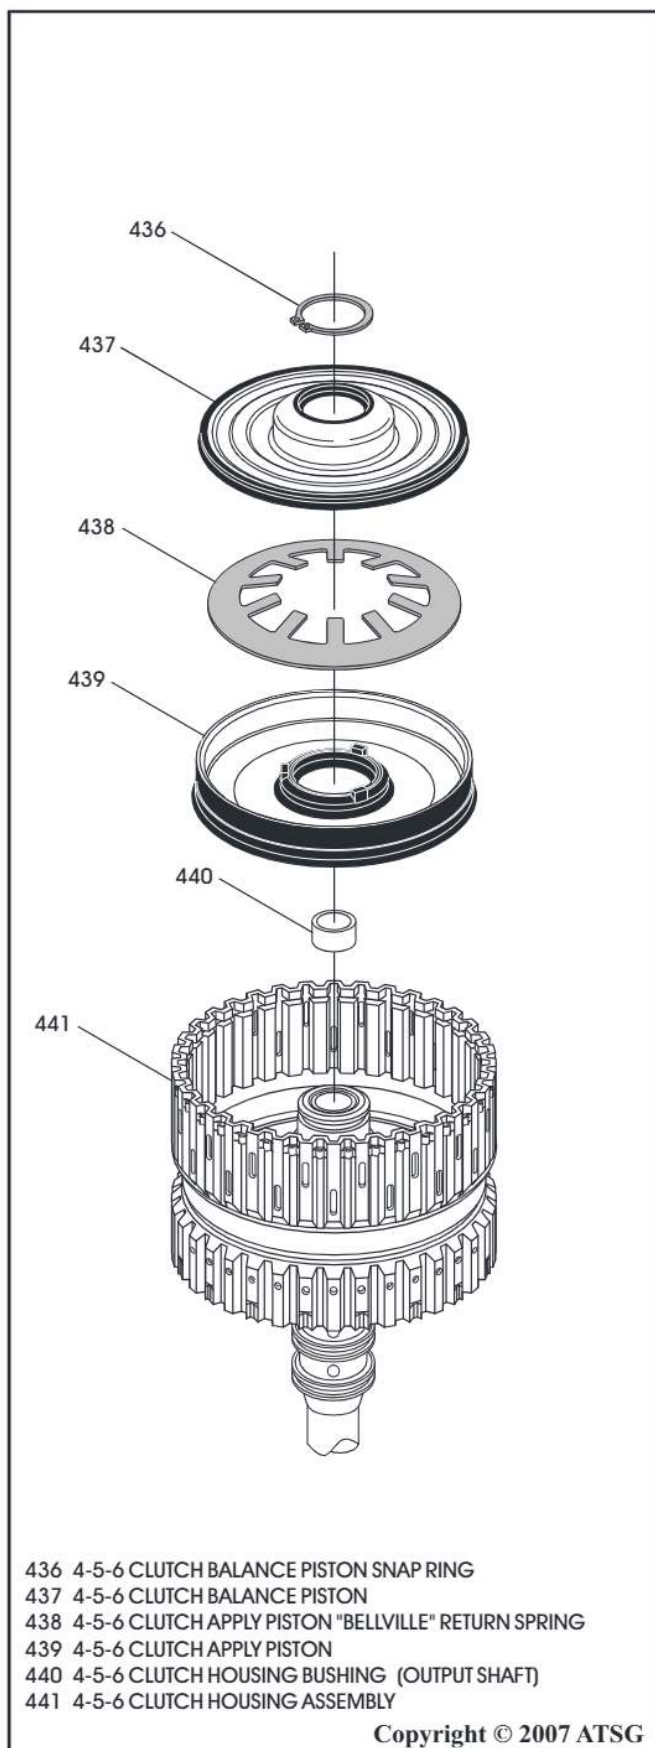

Figure 77
5. Replace the 4-5-6 clutch housing bushing as necessary (See Figure 77)
6. Lubricate a new 4-5-6 clutch piston with small amount of Trans-Jel® on both seal surfaces and install it into housing as shown in Figure 77, using a twisting motion.
7. Install the 4-5-6 clutch apply piston "bellville" type return spring, as shown in Figure 77, with the fingers facing up.
8. Lubricate a new 4-5-6 clutch balance piston with a small amount of Trans-Jel® on both of the seal surfaces and install into apply piston, as shown in Figure 77, with a twisting motion.